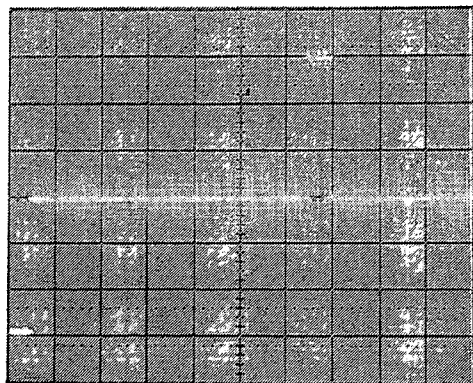

Figure 4-12
25. Set the delay between the negative and positive-going pulses to 3.5ms as shown (Figure 4-12) and check that counts do not register on the Phase display.